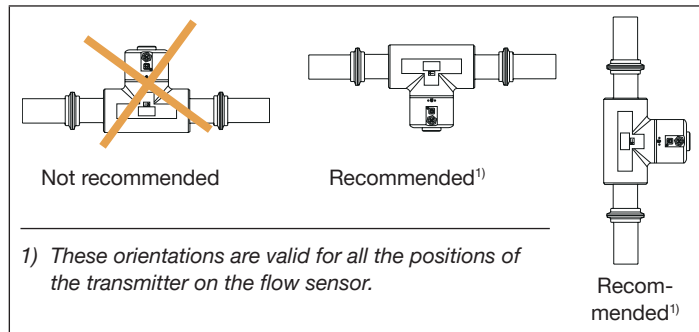

Fig. 11: Orientation of a device to avoid effects of high liquid temperatures
- To make sure the internal temperature of the transmitter does not exceed the authorized maximum value, install the device as recommended in Fig. 11.